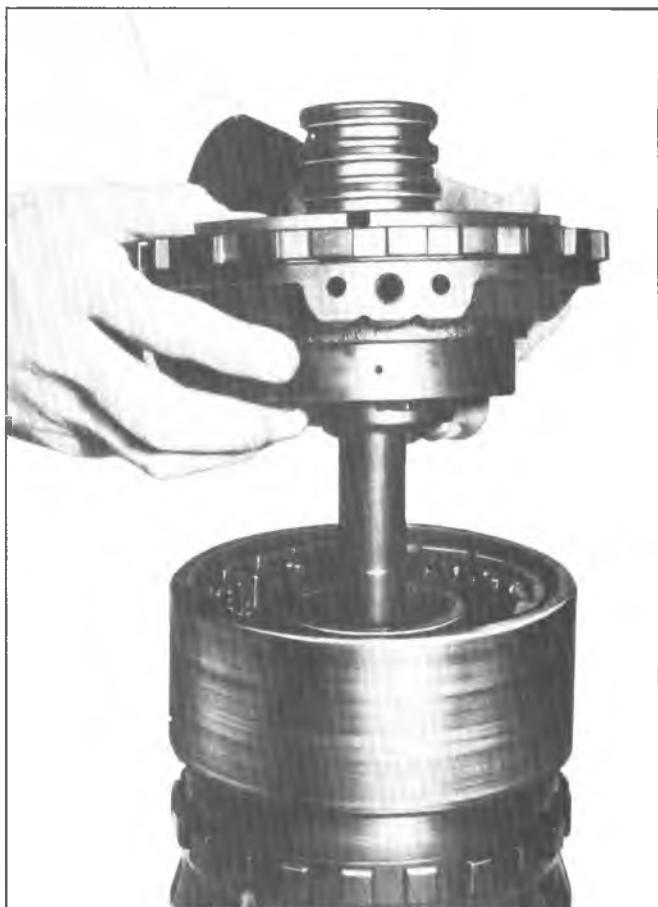

Fig. 39T--Removing Center Support Assembly
1. Remove center support assembly (fig. 39T).